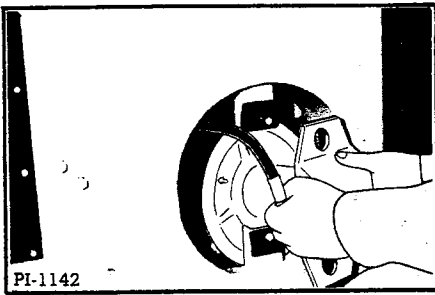

Fig. 32 Removing Engine Sheave Half
1. Remove the outside portion of the engine variable width sheave and hydraulic cylinder assembly, located at the left rear of the machine, on the engine output shaft (Figure 32). Clean the cylinder and hose before disconnecting the fitting. Plug the cylinder port and hose to keep out dirt.